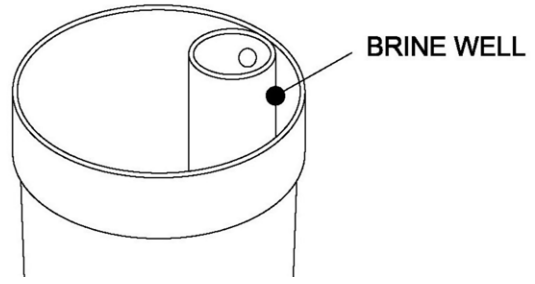

Figure 6
- c) Remove the brine well cover. Pour 1-1/2 ounces of common household bleach into the brine well and replace the cover (see figure 6).